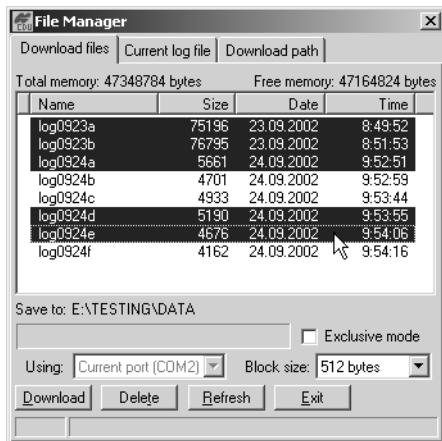

Figure 4-5. Download Files
- Select the file(s) to download (Figure 4-5 on page 4-12).